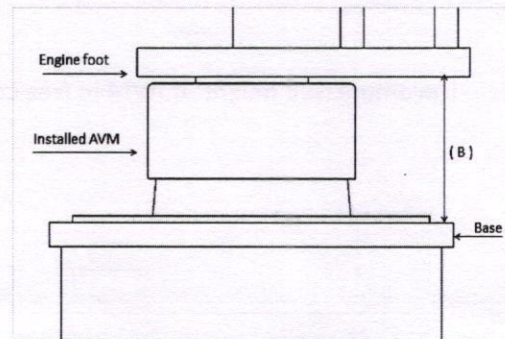

Figure 4 – Compressed height of AVM in installed condition (B)
- 7) Measure the height of all four locations with engine mounted on AVM, refers the Figure 4 and entered the value in column (B) of Table 1.